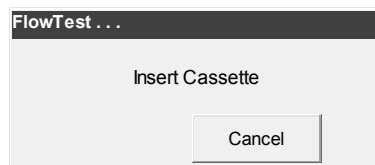

Fig. 7-24 Insert Cassette
- Insert a new cassette (Fig 7-24).